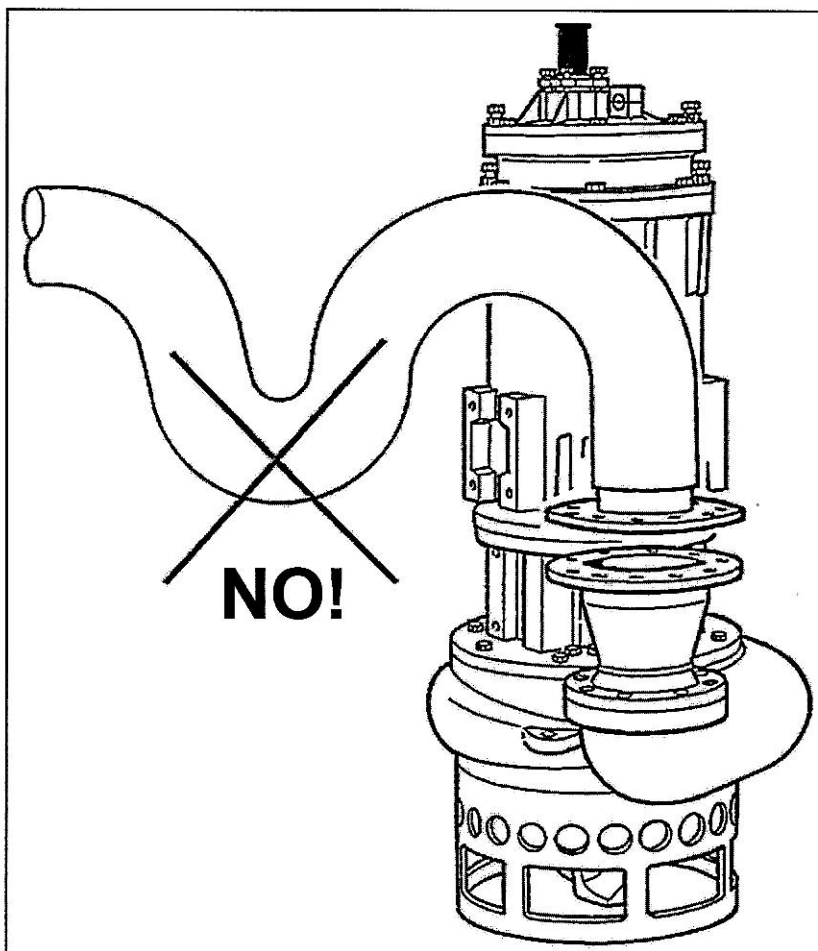

Fig. 5
- The delivery pipes must never form siphons (**Fig. 5**) pag. 6, to avoid problems due to the formation of air pockets or deposits of solid material.